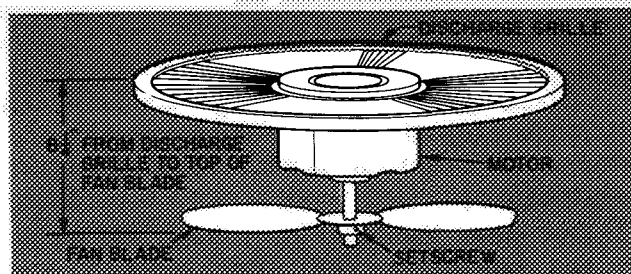

Fig. 9 — Outdoor Fan Position
Outdoor Fan Adjustment — Required fan position is shown in Fig. 9. Adjust fan by loosening setscrew(s) and moving fan blade up or down.
7. Reassembly is reverse of above procedure. Make sure fan is positioned correctly as in Fig. 9.